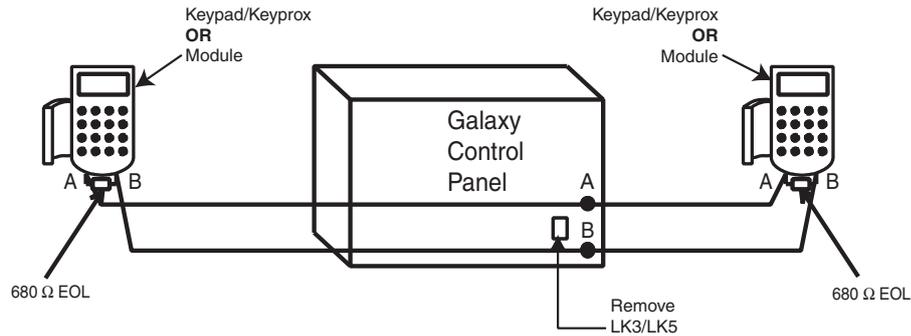

Figure 2-7. Twin AB Line Daisy-Chain configuration
5. The RS485 (**AB**) line must have a 680 Ω resistor fitted across the **A** and **B** terminals of the last module on the line. If twin lines are connected, both ends must be terminated with 680 Ω resistors and the appropriate link on the control panel PCB must be removed (refer to figure 2-7).